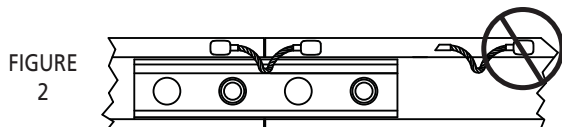

FIGURE 2
**WARNING:** The location of the bond is very important! The intent of a rail head bond is to electrically join two rail sections. Rail head bonds must be done only within the confines of the joint/splice bar as near to the bar center as practical. Failure to observe this may result in a rail break leading to property damage, injury or death to others. **See Figure 2.**